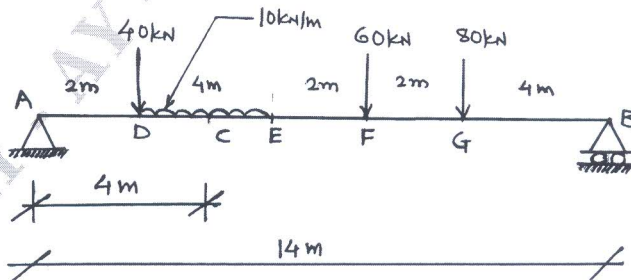

Fig.Q2(b)
- b. Using influence line diagrams determine the shear force and bending moment at section 'C' in the simply supported beam as shown in Fig.Q2(b).